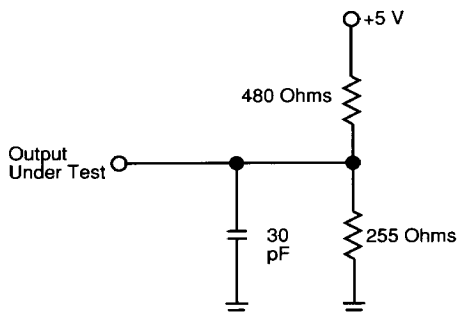
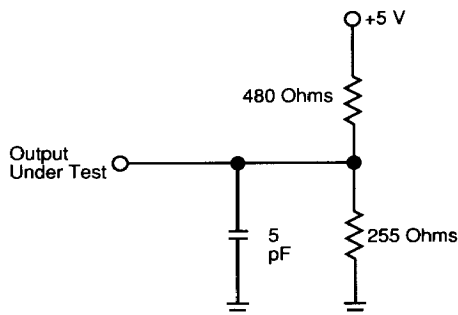

Figure 2. AC Test Load
Figure 3. AC Test Load
Output Load—As specified in Figure 2 or Figure 3
- (1) Test Conditions assume signal transition times of 5 ns or less, timing reference levels of 1.5V, Input pulse levels of 0 to 3.0V and output loading specified in Figure 2.
- (2) t_{HZOE} , t_{HZCE} and t_{HZWE} are tested with the load in Figure 3. Transition is measured ± 500 mV from steady state voltage.
- (3) At any given temperature and voltage conditions t_{HZCE} is less than t_{LCZE} for all devices. These parameters are sampled and not 100% tested.
- (4) The internal write time of the memory is defined by the overlap of $\overline{\text{CE}}$ low and $\overline{\text{WE}}$ low. All signals must be in their valid state to initiate a Write and any of the three signals can terminate the Write by going false. The Data Input Setup and Hold timing are referenced to the rising edge of the signal that terminates the Write.
- (5) Tested with $\overline{\text{OE}}$ high (only for V63C70).
- (6) $\overline{\text{WE}}$ is high for a Read cycle.
- (7) The device is continuously selected when $\overline{\text{OE}}$, $\overline{\text{CE}} = V_{\text{IL}}$ (only for V63C70).
- (8) Address is valid prior to or coincident with $\overline{\text{CE}}$ low and $\overline{\text{CE}}$ high transitions.
- (9) I/O will assume the High-Z state if $\overline{\text{OE}} \geq V_{\text{IH}}$ (only for V63C70).